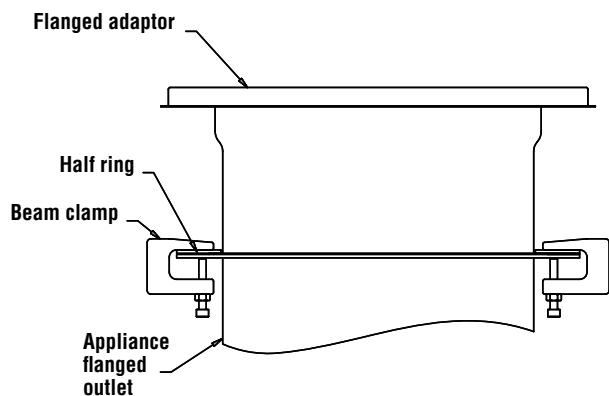

Figure 43 - Flanged adaptor (FHA illustrated)
2. The adaptor is designed to sandwich an 1/2 inch flange between two half ring and the appliance flanged outlet. The Flange Adaptor comes with beam clamps to clamp the FHA to the appliance. See **Figure 43**.
2. The adaptor is designed to sandwich an 1/2 inch flange between two half ring and the appliance flanged outlet. The Flange Adaptor comes with beam clamps to clamp the FFHA to the appliance. See **Figure 43**.